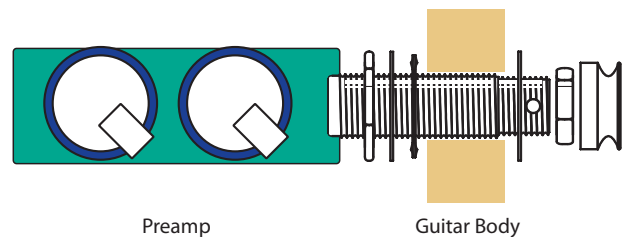

## Figure 5
**Important:** The fit of the saddle in the slot is the single most important factor in this installation. It is crucial that the bottom of the slot and the lower surface of the saddle be flat to make even contact with the pickup. The saddle should fit loosely enough in the slot that it can be pulled out with your fingertips. It will then have a slight forward lean when the strings are under tension. It is absolutely necessary to compensate for this slight lean by sanding a tilt in the bottom of the saddle so it still sits flat on the pickup when the strings are at tension (see figure 5). If the saddle is too tight, binds at all or is too loose, this will have a negative effect on the string balance and output. Set the saddle in the slot, noting how much material must be removed to compensate for the thickness of the pickup. Sand the bottom surface of